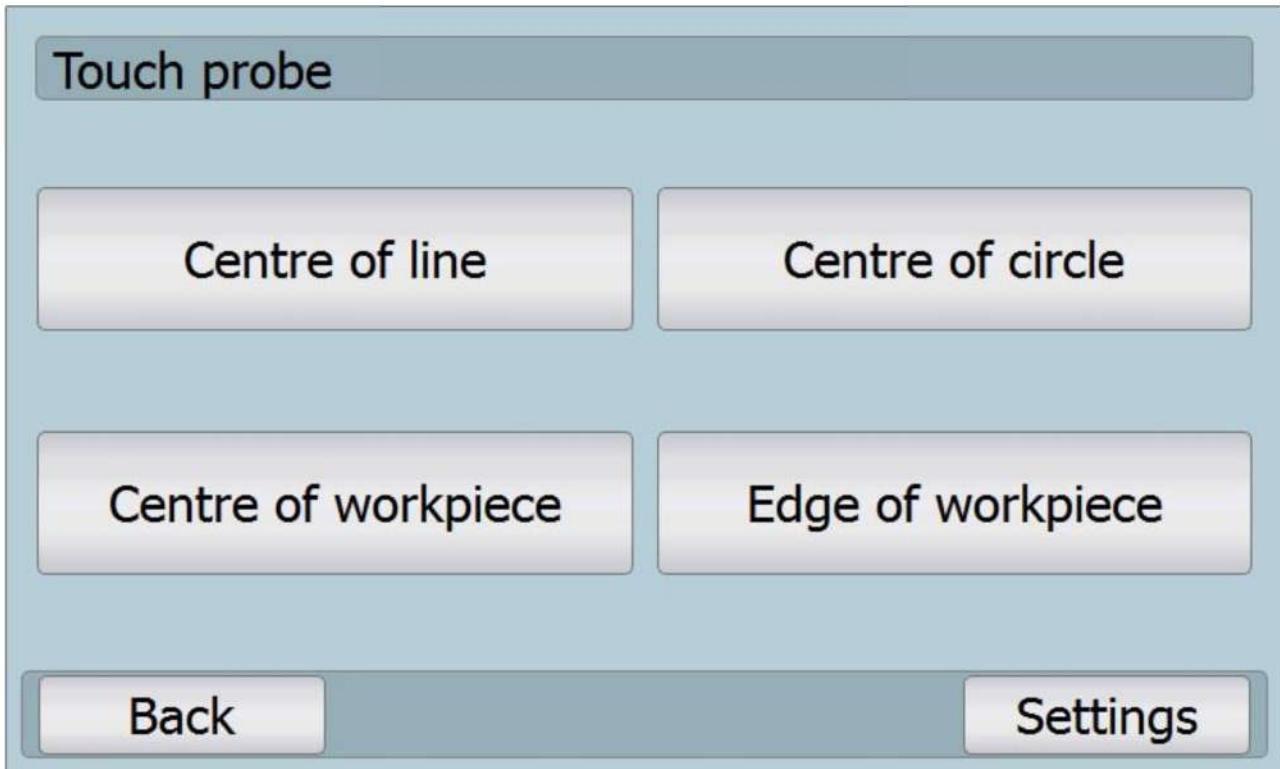

Fig. 39: Touch probe function
⑩ After opening it includes four new function for use with 2D touch probe (see fig. 39: Touch probe function)
⑩ In the bottom right (see fig. 39: Touch probe function) is setting for the touch probe which enables setting